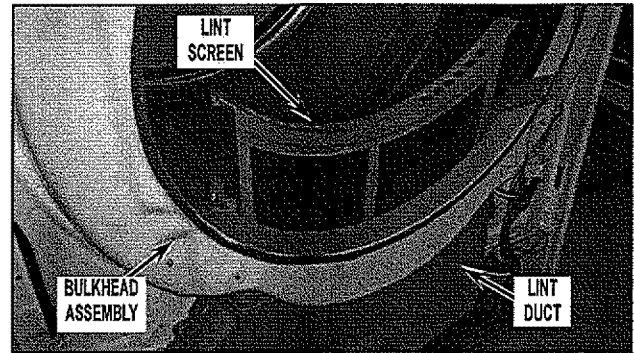

FIGURE 9
- Remove the bulkhead assembly from dryer by first removing lint screen from dryer lint duct. See *Figure 9*.